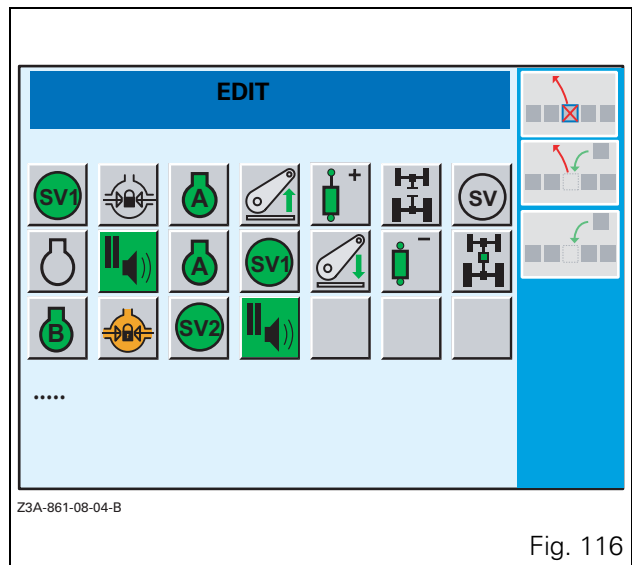
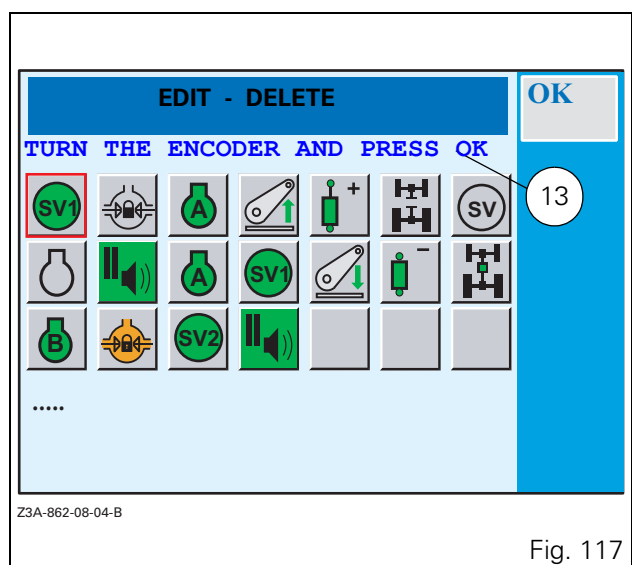
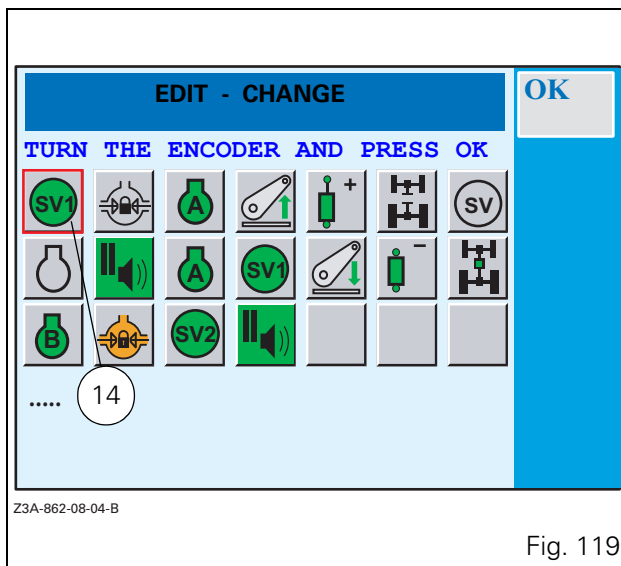

Fig. 116
Fig. 117
Fig. 119
- Press the key «₅, (the EDIT window Fig. 116 opens).
- Press the key «₁ in the window (Fig. 116). An instruction message is displayed (13) and the first icon is outlined in red (Fig. 117).
- Press the key $\ll_2$ in the window (Fig. 116). An instruction message is displayed and the first icon is outlined in red (14 Fig. 119).